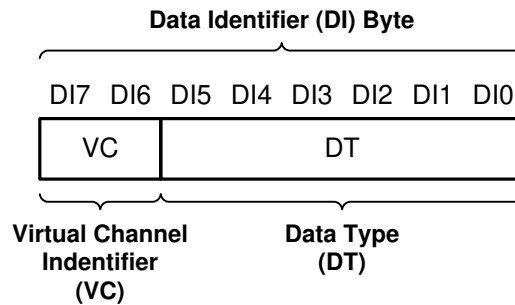

Figure 32. CSI-2 Data Identifier Structure
The DS90UH940-Q1 MIPI CSI-2 protocol interface transmits the data identifier byte containing the values for the virtual channel ID (VC) and data type (DT) for the application specific payload data, as shown in Figure 32. The virtual channel ID is contained in the two MSBs of the data identifier byte and identify the data as directed to one of four virtual channels. The value of the data type is contained in the 6 LSBs of the data identifier byte.